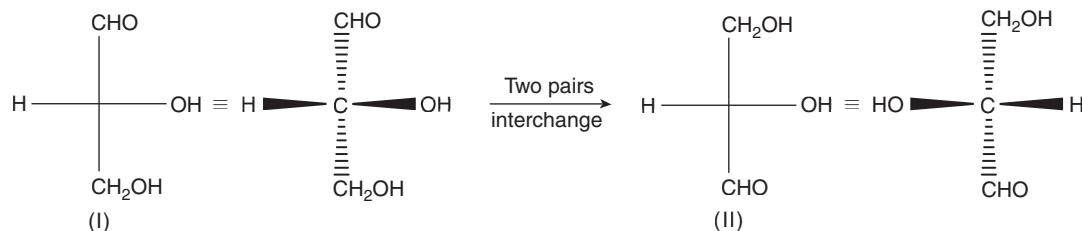

Figure 2 Same molecule obtained by interchanging two pairs of substituents.
1. Fischer projection of a molecule can be converted into another identical Fischer projection by interchanging any *two pairs* of substituents bonded to the chiral carbon (Figure 2).
From Figure 2, we find that Structure II is identical with Structure I.
The sawhorse conformation of the compound in which the bulky atoms or groups (Br atoms) make a dihedral angle $\theta = 180^\circ$, is called the *staggered conformation*. Since the free rotation along the diagonal C2-C3 bond is allowed, other conformations of the compound are also possible. The conformation in which the dihedral groups of sawhorse formula, make an angle equal to 120° , the representation is known as the *partially eclipsed* sawhorse formula. The *totally eclipsed* sawhorse formula is the one which contain $\theta = 0^\circ$ between the groups. These are depicted in Figure 2.